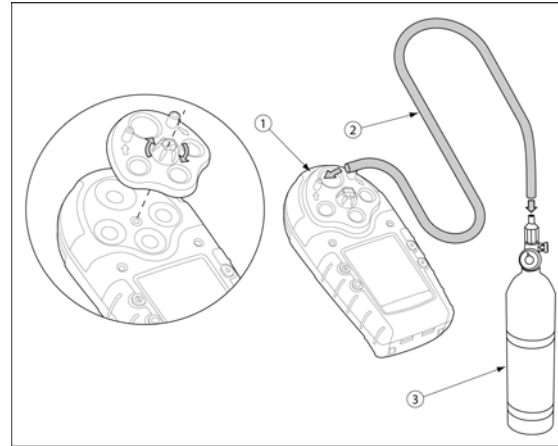

Figure 3. Applying Gas to the Sensors
The calibration cap and hose are shipped with the detector. Refer to Table 10 and Figure 3 for installation.
- 4a. Attach the calibration cap and apply gas to the sensor(s) at a flow rate of 500 ml/min. (1000 ml/min. for NH₃ and Cl₂). Refer to Figure 3. Applying Gas to Sensors.